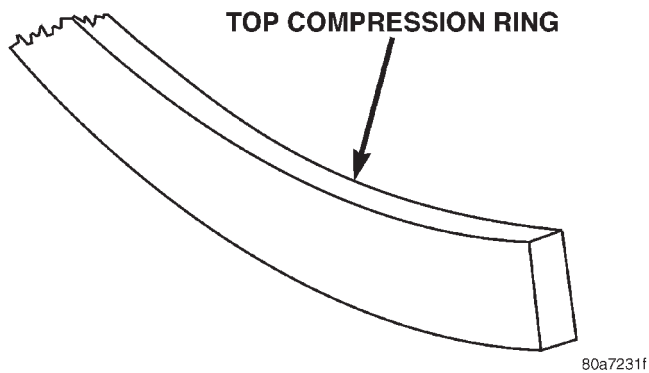

Fig. 8 Top Compression ring identification
(5) The oil control rings are symmetrical, and can be installed with either side up. It is not necessary to use a tool to install the upper and lower rails. Insert oil rail spacer first, then side rails.
(6) The two compression rings are different and cannot be interchanged. The top compression ring can be identified by the shiny coating on the outer sealing surface and can be installed with either side up. (Fig. 8).